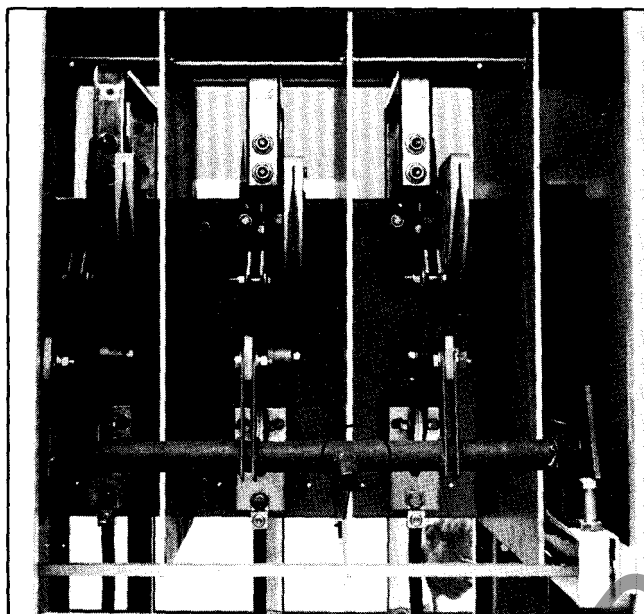

Figure 17. Slow Close Rod Location
Slow closing (Figure 17) for checking load interrupter switch alignment can be accomplished in the following manner: Open the switch using the operator mechanism and open the main door panel. Insert pipe over protruding rod (1) on rotating shaft assembly and rotate the shaft assembly using the pipe as a lever. Main blades and arcing tips will not stay closed. Adjust arc chutes and main contacts per instructions below.